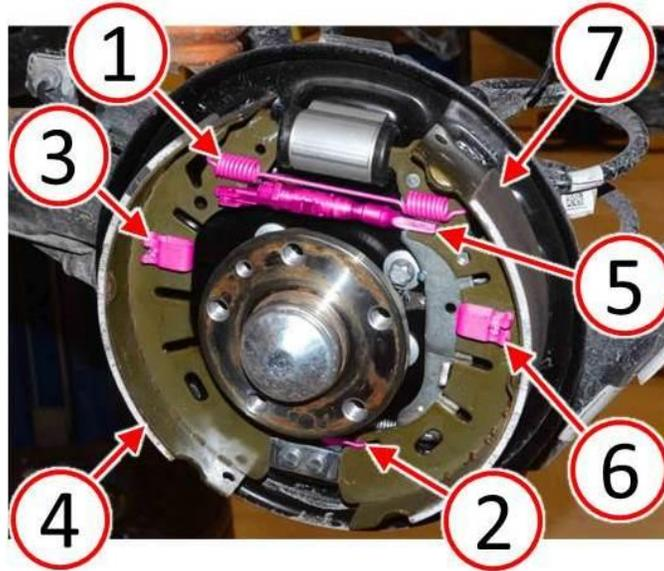

Fig. 5 Remove Rear Brake Shoes
7. Remove the upper brake shoe return spring (1) and lower brake shoe return spring (2) (Fig. 5).
8. Remove the front-facing brake shoe retaining clip (3) and brake shoe (4) (Fig. 5).
9. Remove the brake shoe adjuster (5) (Fig. 5).
10. Remove the rear-facing brake shoe retaining clip (6) (Fig. 5).
11. Disconnect the park brake cable from the rear-facing brake shoe (7), then remove the brake shoe (Fig. 5).